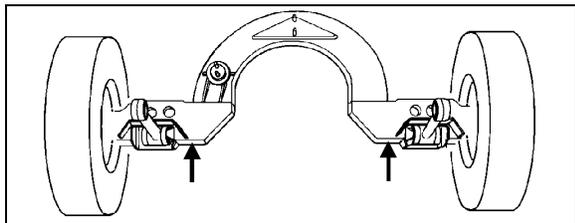

FIGURE 13: JACKING POINTS ON TAG AXLE OE13B764
3. Install jacks under tag axle jacking points to support the axle weight (refer to figure 13).